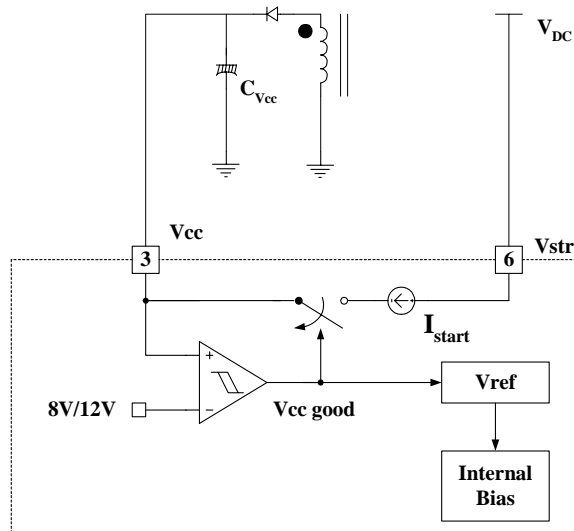

Figure 4. Internal startup circuit
**1. Star-up:** In previous generations of Fairchild Power Switches (FPS™), the Vcc pin had an external start-up to the DC input voltage line. In the newer switches, the startup resistor is replaced by an internal high voltage current source. At startup, an internal high voltage current source supplies the internal bias and charges the external capacitor (CVCC) that is connected to the Vcc pin as illustrated in Figure 4. When the Vcc pin reaches 12V, the FSDM1265RB begins switching and the internal high voltage current source is disabled. Then, the FSDM1265RB continues its normal switching operation and the power is supplied from the auxiliary transformer winding unless Vcc goes below the stop voltage of 8V.